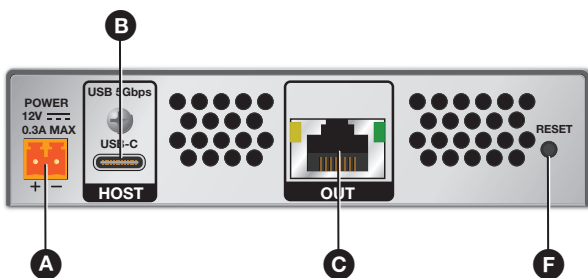
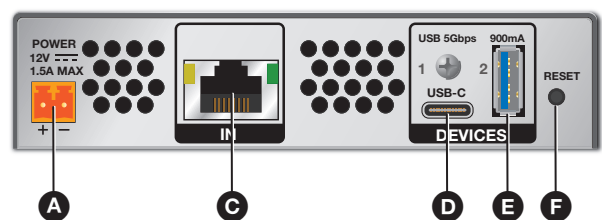

Figure 2. Transmitter Rear Panel
Figure 3. Receiver Rear Panel
**A Power connector** (see figure 2 and figure 3 on page 1) —
- **Transmitter** — Connect to a CAT 6A or better twisted pair cable from the RJ-45 Input connector of the receiver (see figure 3, C) to this connector.
- **Receiver** — Connect a CAT 6A or better twisted pair cable from the RJ-45 Output connector of the transmitter (see figure 2, C) to this connector.